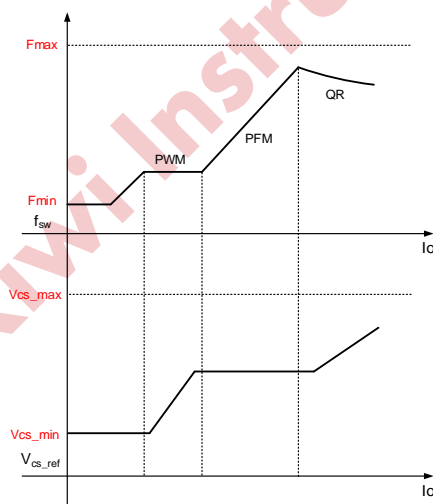

Fig.4
To meet the tight requirement of average system efficiency and no-load power consumption, a hybrid of frequency modulation (FM) and amplitude modulation (AM) is adopted in KP2182X which is shown in the Fig 4.